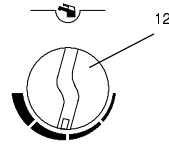

fig. 2.8
Moreover, where the amount of limescale present in the water may be particularly great, not exceeding the position in fig. 2.8 of the domestic hot water control knob (12) corresponding to about 50°C (fig. 2.8), minimises annoying incidences of scale deposits and clogging.